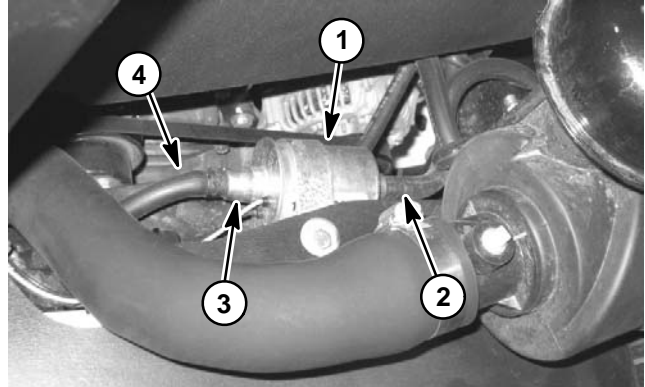

Figure 89
The fuel pump on Greensmaster 3420 machines is secured to the radiator assembly with an r-clamp (Fig. 89). The Toro Electronic Controller (TEC) energizes the fuel pump when the ignition switch is in either the RUN or START position.
2. Disconnect machine fuel supply hose from the fuel pump outlet (Fig. 89).